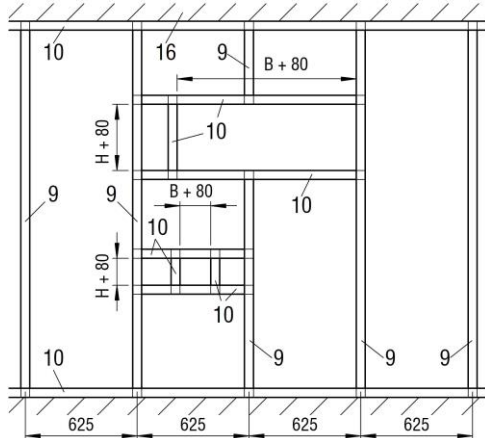

Figure 33: Metal post with required exchange parts for dry installation (F30/F60)
- Mount the metal posts and the wall in accordance with the specifications of the wall manufacturer and the required exchange parts as shown on Figure 33.
- Insert BKA-Ü (pos. 1) into the wall recess (operating side - observe the installation dimension of 210 mm). Average out the circumferential annular gap evenly between the wall and BKA-Ü. Mounting of BKA-Ü with the help of mounting suspensions etc.
- Insert mineral wool (pos. 11.4) into the circumferential gap 40 mm in width between the BKA-Ü housing and the circumferential metal profiles (pos. 10).
- Mount the wall panellings on both sides (pos. 12) and the doublings on the non-operating side (pos. 49.4). The connection and butt joints must be filled with the jointing material of the wall (pos. 43; max. gap width 5 mm, perform jointing operation as part of assembly).